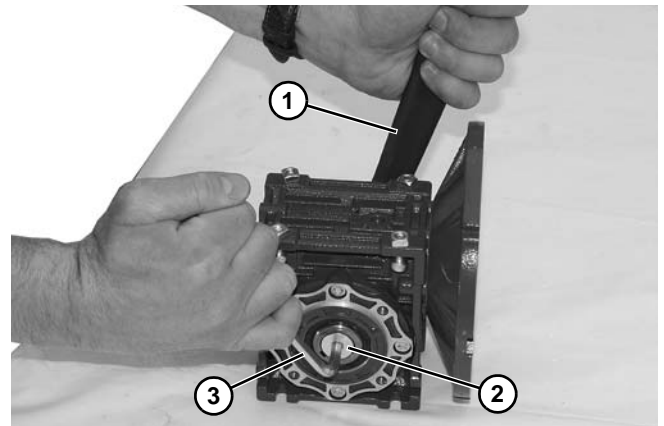

Figure 22
- Hold the driveshaft with a wrench (**Figure 22, item 1**) as shown to keep shaft from turning, while removing screw (**Figure 22, item 2**) with hex wrench (**Figure 22, item 3**).
Output shaft (**Figure 22, item 1**) is held in Gear Reducer with a tapered press fit. Removal may require use of an arbor press.
14. Hold the driveshaft with a wrench (Figure 22, item 1) as shown to keep shaft from turning, while installing screw (Figure 22, item 2) with hex wrench (Figure 22, item 3). Tighten screw to 350 in-lb (39.5 Nm).